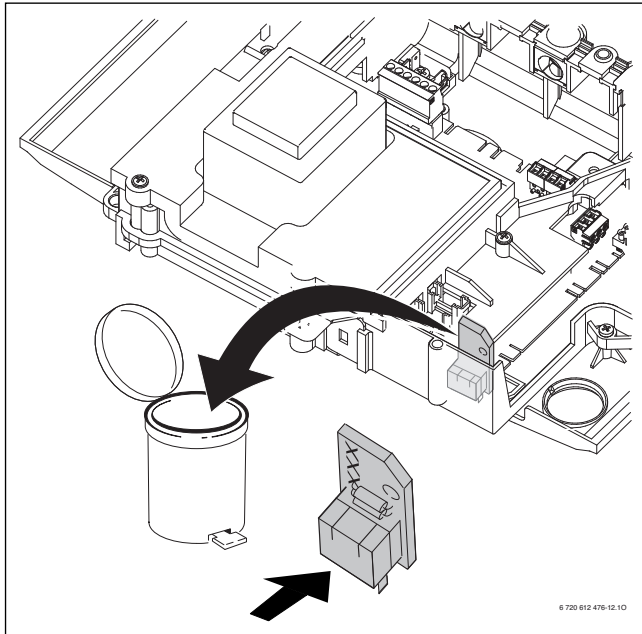

Fig. 13
- ▶ Remove the code plug (see Fig. 13) from the control panel and cut the tie to the boiler chassis so that it can be completely discarded and replace with the correct one according to following table: